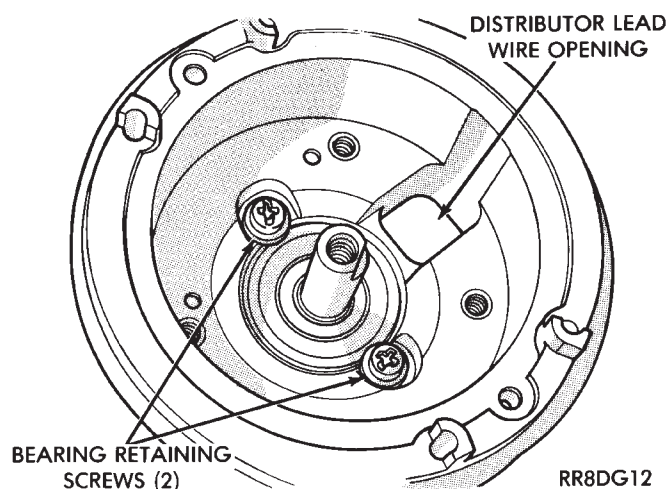

Fig. 31 Bearing Retainer Screws
(9) Remove bearing retainer screws (Fig. 31).